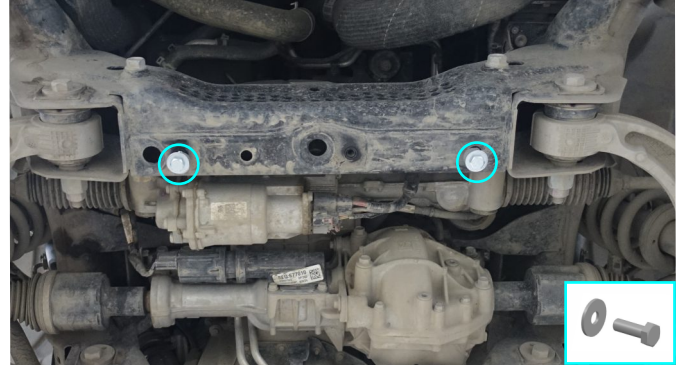

Fig. 7
7. Loosely insert supplied bolts M10x30 with flat washers M10 (items B, C) to insert nut M10x65x20 from step 6 and into factory threaded hole as shown in fig.7.